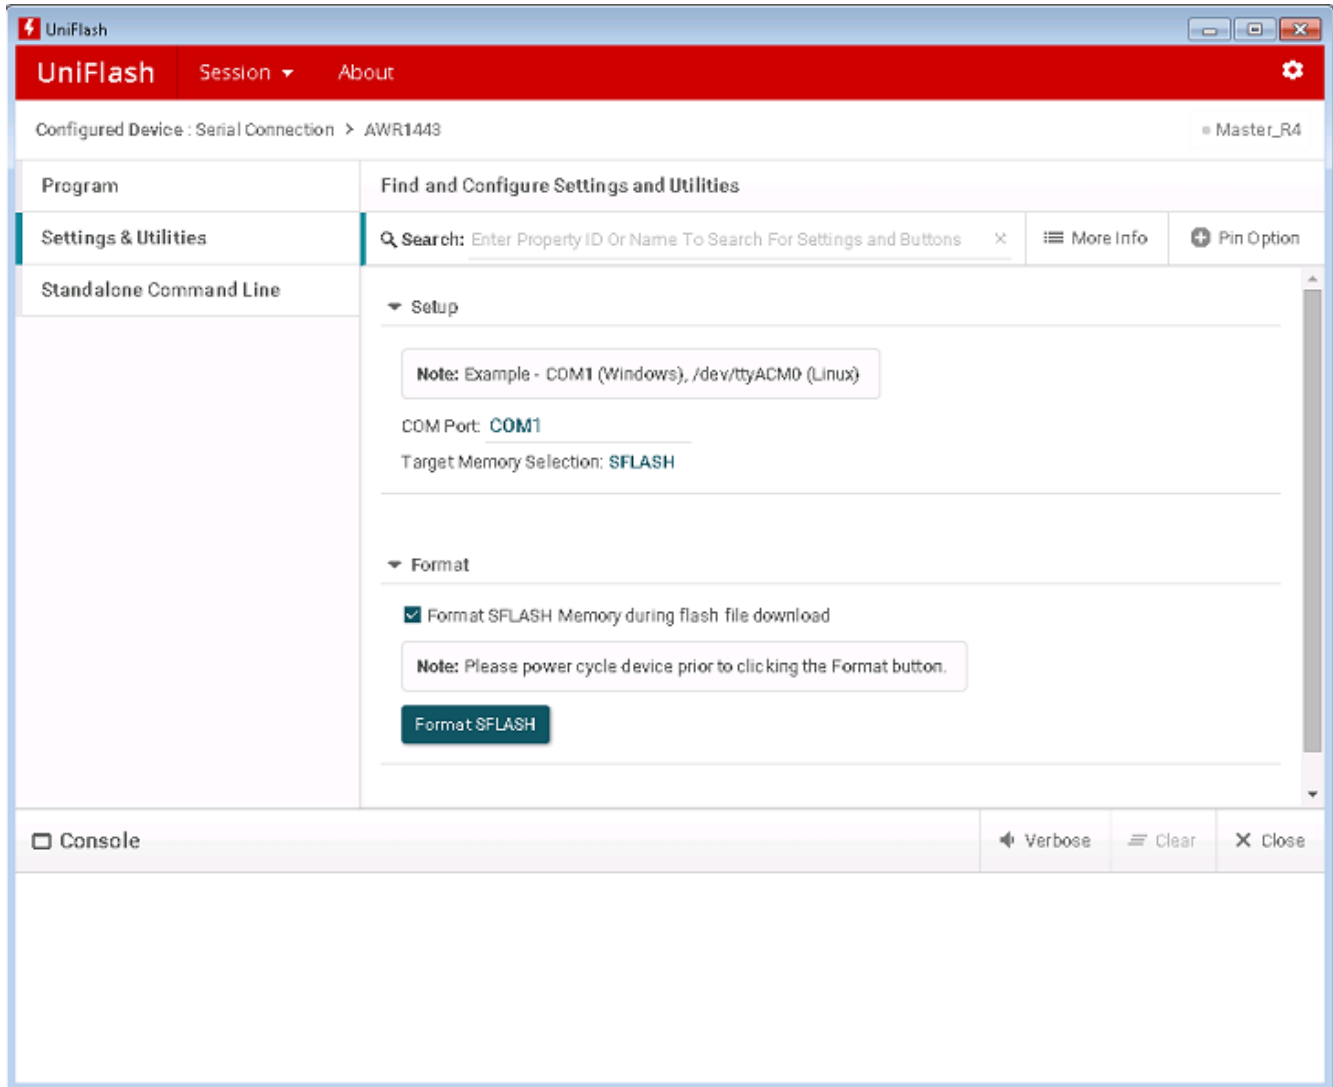

Figure 7: Settings & Utilities View
- Figure 7: Settings & Utilities View
In the *Settings & Utilities* view, settings for the flashing operation can be configured. The settings are displayed with default values and should be reviewed carefully before flashing the device. Figure 7 depicts the *Settings & Utilities* view for the AWR1443 device.